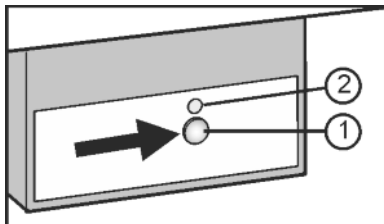

Fig. 22
- ▶ Press the On/Off button Fig. 22 (1) so that the LED Fig. 22 (2) shines.